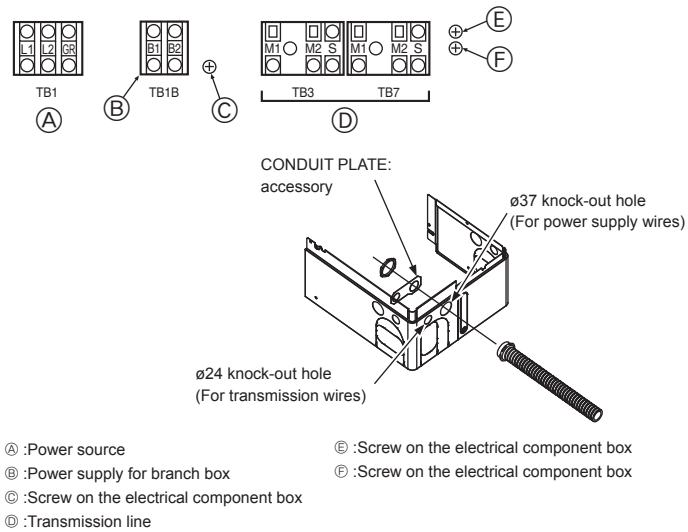

Fig. 7-1
7.2. Control box and connecting position of wiring (Fig. 7-1)